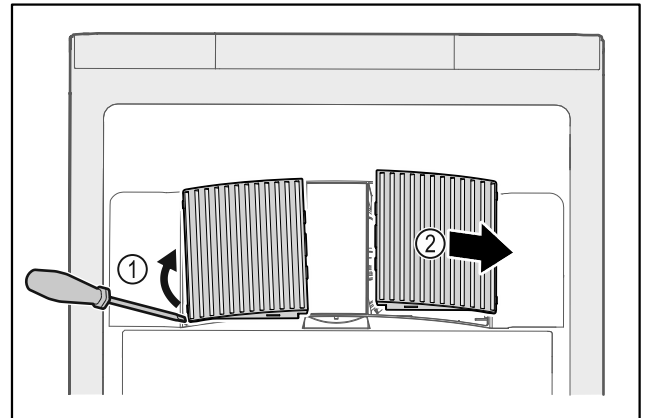

Fig. 58
- ▶ Carefully lever out fan covers from the side Fig. 58 (1) and remove towards the front Fig. 58 (2).